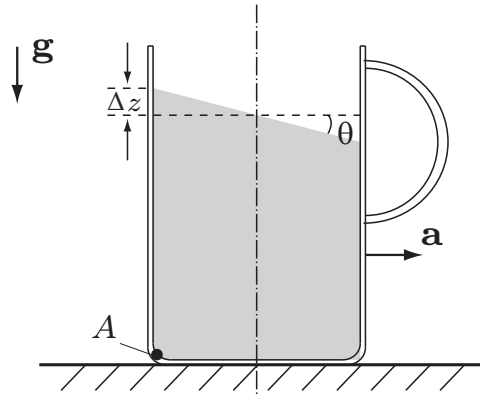

Figure 1: The coffee tilted during the acceleration $\mathbf{a} = 7 \text{ m/s}^2$.
Problem 1 (20). A racer rests his coffee mug on a horizontal tray while accelerating at 7 m/s^2 as shown in figure 1. The mug is 10 cm deep and 6 cm in diameter and contains coffee 7 cm deep when at rest. **Hint:** You must take into account the total acceleration vector which has gravity \mathbf{g} and acceleration \mathbf{a} as components.